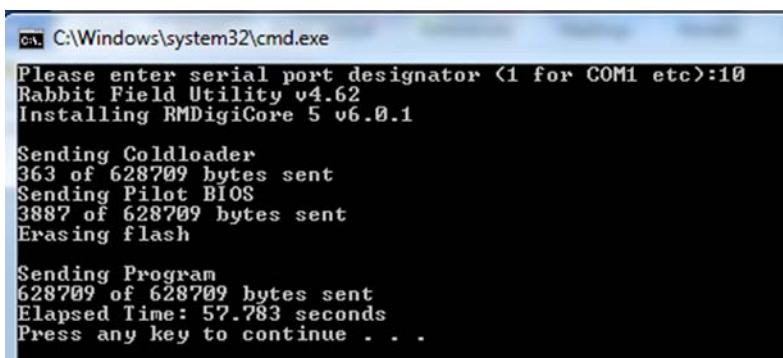

Figure 4-10: Command Window Showing Program Prompts
5. Locate and run the Upgrade.bat script file which was provided in the upgrade package. The file will open a command prompt window and request the programming serial port designator. Enter the port designator located in previous step and then press **Enter**. The script file will start downloading a new image file to the HPA. The resulting window is shown in **Figure 4-10**;